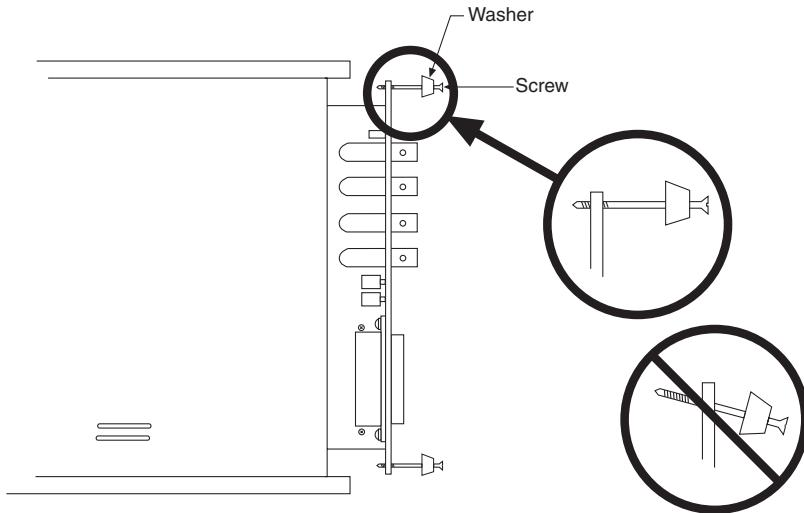

Figure 63. Module Installation
3. Rotate the two locking screws counterclockwise until the threads on the screws engage those of the module panel. *See Figure 63.* By doing this, the screws will be perfectly perpendicular to the module panel and will align perfectly when the module is inserted.